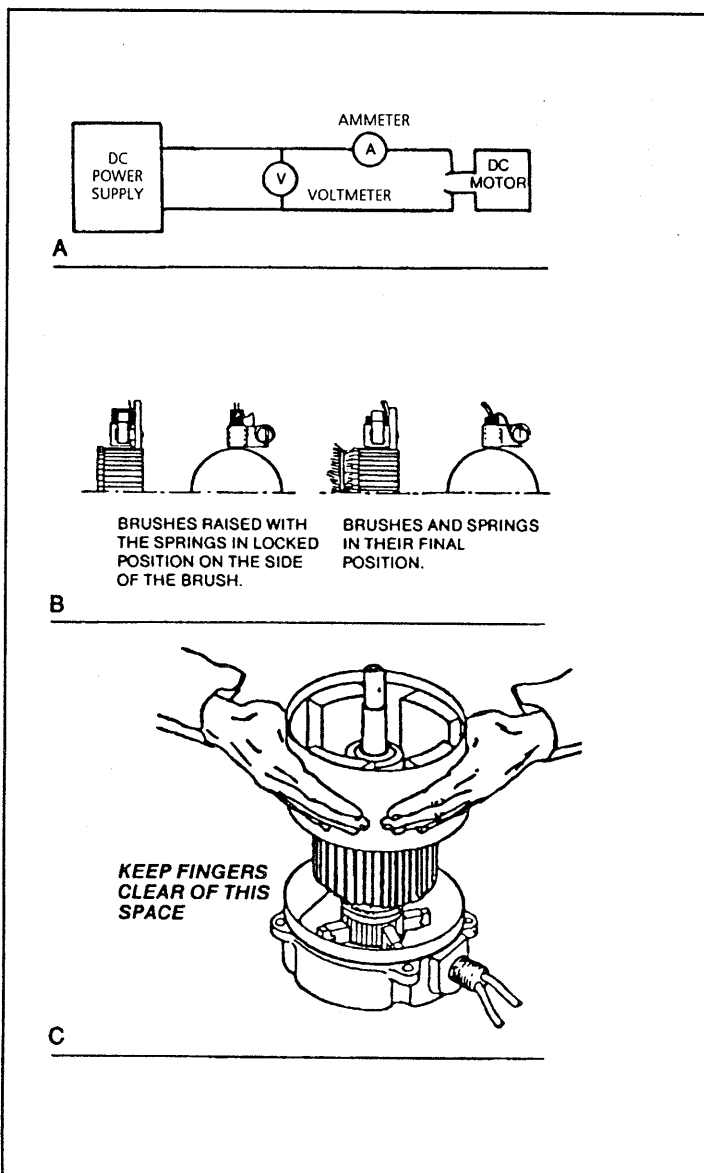

Figure 4-16: Electric Motor Service
4.14 Electric Motor (Figure 4-16)